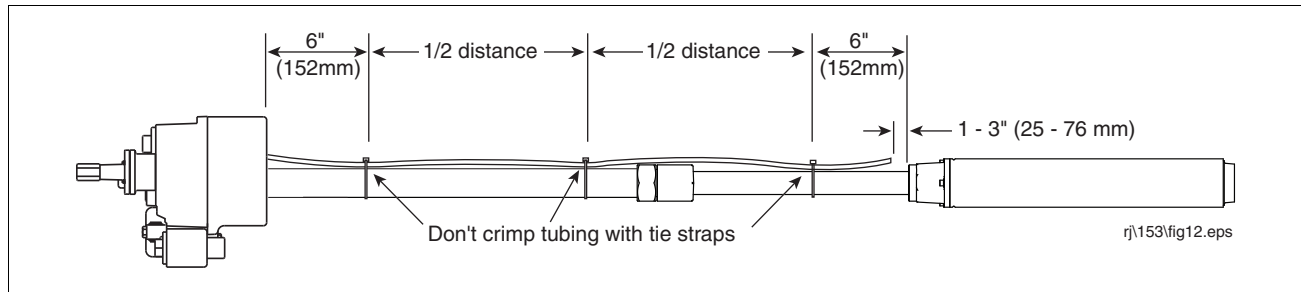

Figure 12. Attaching Return Line Tubing To Pump
9. Secure the siphon return line tube to the column pipe with tie straps. Locate the tie straps approximately 6 inches (152 mm) from the packer, 6 inches from the discharge head and in the middle of the tubing (see Figure 12).